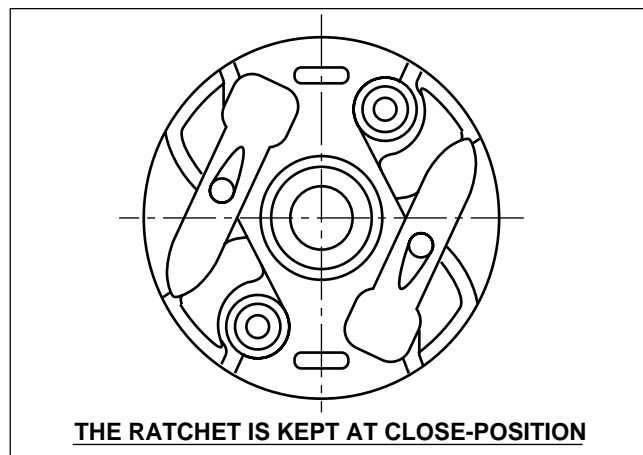

Fig. 9-5
(2) Setting the attachments
-1: Set the ratchet into the reel. (Fig. 9-5)